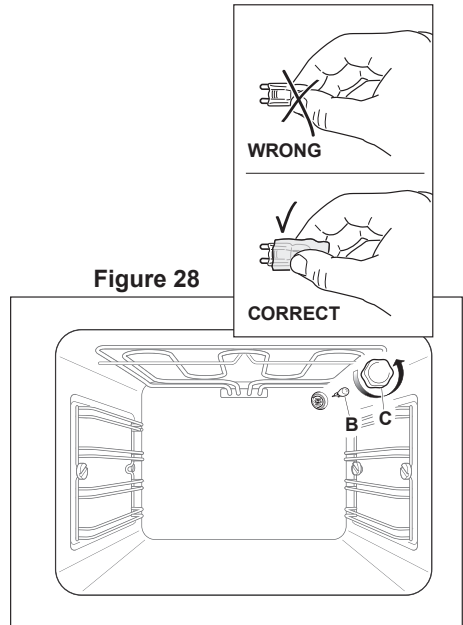

Figure 28
- Remove the protective cover “C” (fig. 28).